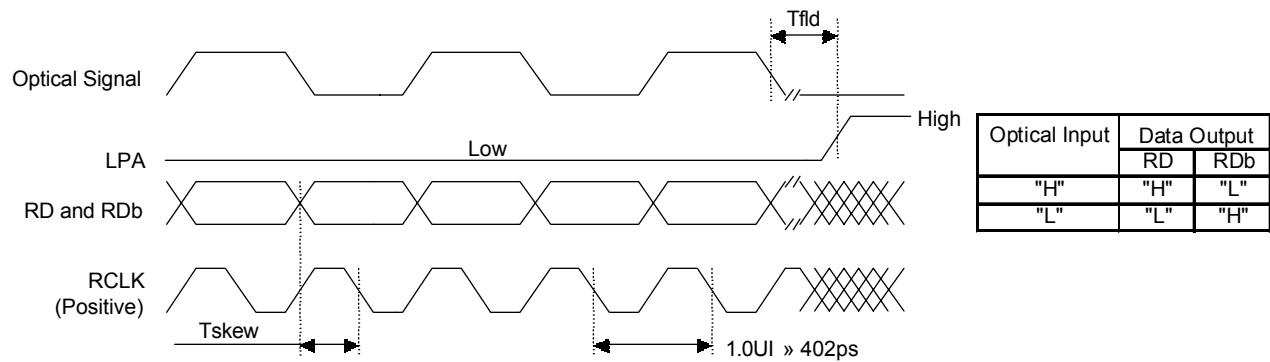

Figure 4 Output Timing Chart
4. R_I = 50Ω , Single end out. 5. Please refer to Figure 4. 6. 2488.32Mbps, PRBS 2²³-1, NRZ
1. BER = 10⁻¹⁰ 2. Refer to Figure 4